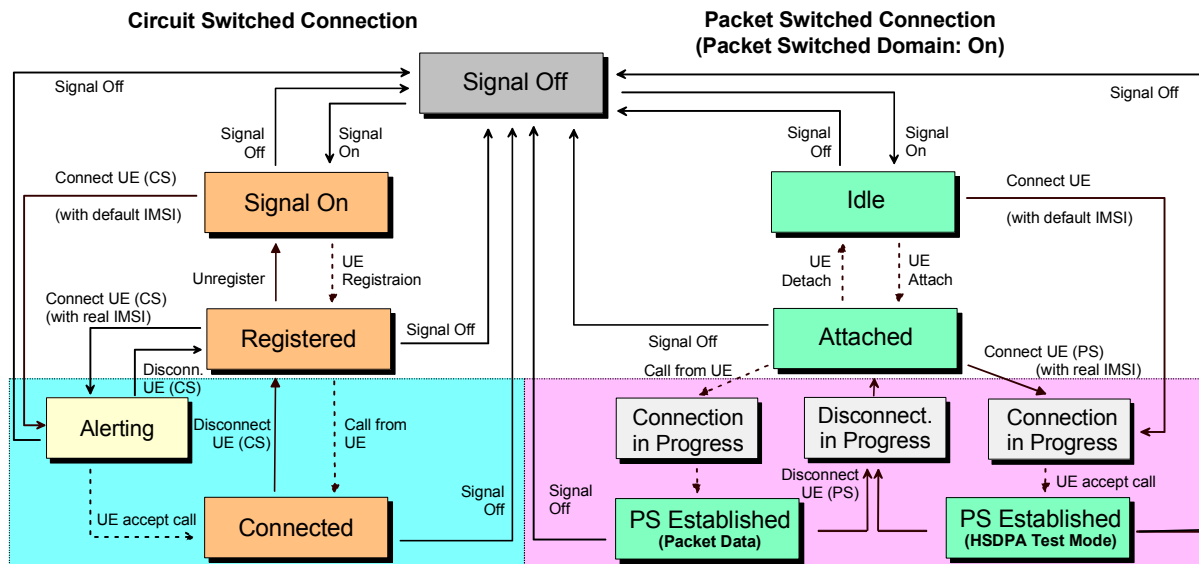

Fig. 4-92 Packet switched and circuit switched signalling states
A number of actions or control commands which can be initiated either by the CMU (e.g. *Signal On*, *Signal Off*) or by the UE (e.g. *MS Attach/Detach*) switch between the different signalling states. In Fig. 4-92 on p. 4.211, dashed lines represent processes initiated from the UE.
A packet switched connection is controlled by the *Signal On* and *Signal Off* and by the *Connect UE (PS)* and *Disconnect UE (PS)* softkeys in the *Connection* tab of the *Connection Control* menu. The remaining actions shown in Fig. 4-92 above can be initiated from the UE.
If a connection for data application tests is set up from the UE (see Fig. 4-92 on p. 4.211), the DCH type setting is not ignored. Instead *Packet Data* is displayed for information after the connection is established (no setting value).